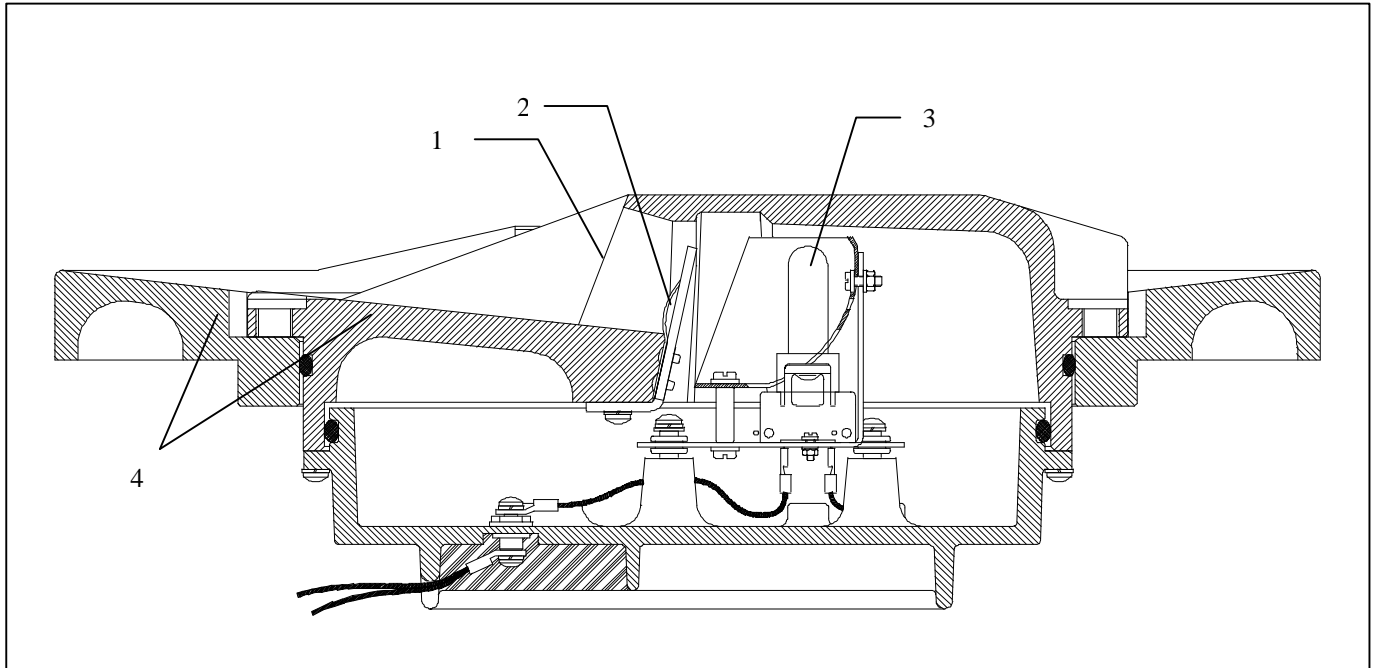

Figure 4. Optical Assembly (Cutaway View)
See Figure 4. The L-850E threshold light fixture optical assembly consists of two 150 W, 175 W, or 200 W lamps (3), green or red color filters (2), and prisms (1).